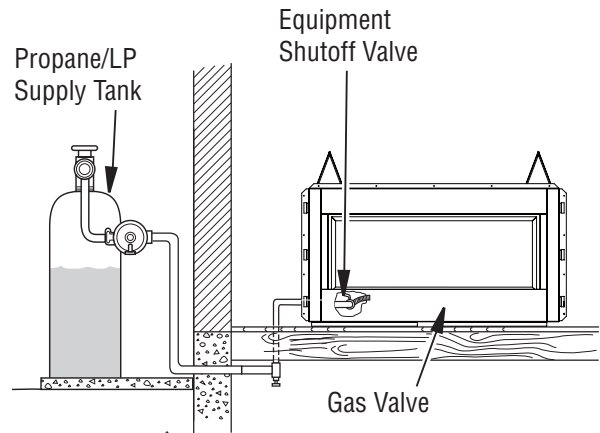

Figure 14 - Checking Gas Joints for Propane/LP Gas Fireplace
3. Check all joints from gas meter to equipment shutoff valve for natural gas or propane/LP supply to equipment shutoff valve for propane/LP (see Figures 14 or 15). Apply noncorrosive leak detection fluid to all joints. Bubbles forming show a leak.
4. Check all joints from equipment shutoff valve to gas control valve (see Figures 14 or 15). Apply noncorrosive leak detection fluid to all joints. Bubbles forming show a leak.